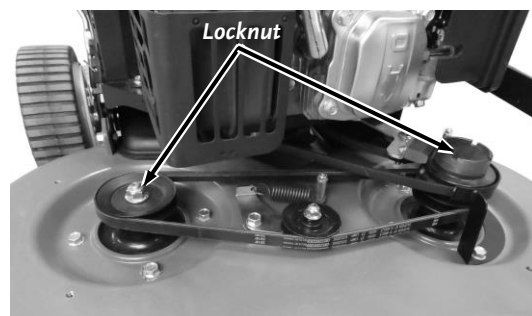

Figure 28
6. Hold the Pulley Locknut at the top side of the Deck with a 3/4" Socket so the Bolts can be torqued in the next step (**Figure 28**). The Pulley will rotate if the Pulley Bolt is not held while tightening.